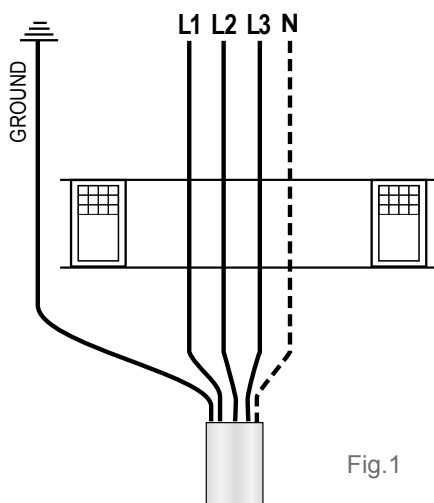

Fig.1
**NOTE** If there is an earthing circuit, it should be placed outside of the T/T (fig1).